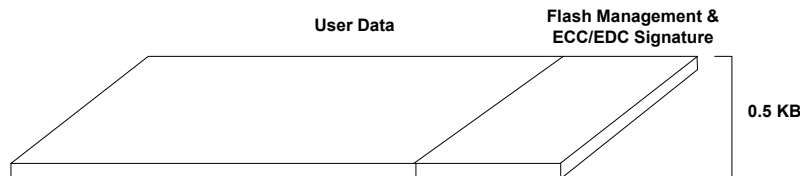

Figure 9: Page Structure
- **Page** – Each page contains 512 bytes of user data and a 16-byte extra area that is used to store flash management and EDC/ECC signature data, as shown in Figure 9. A page is the minimal unit for read/write operations.